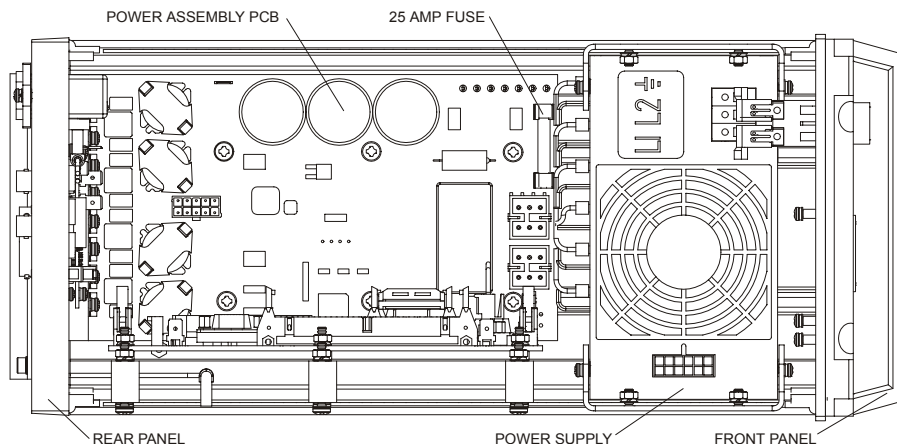

Figure 2. Electronic Chassis (Right View - Looking Toward the Power Assembly PCB)
A fuse on the Power Assembly board (see Figure 2, page 3) protects the Ocean Surveyor/Observer from excessive incoming power. If this fuse continues to blow, check your input power before applying power again.
- b. Remove the top cover of the electronic chassis (see “Electronics Chassis Board Replacement,” page 2). The fuse is located on the Power Assembly board (Figure 2, page 3).